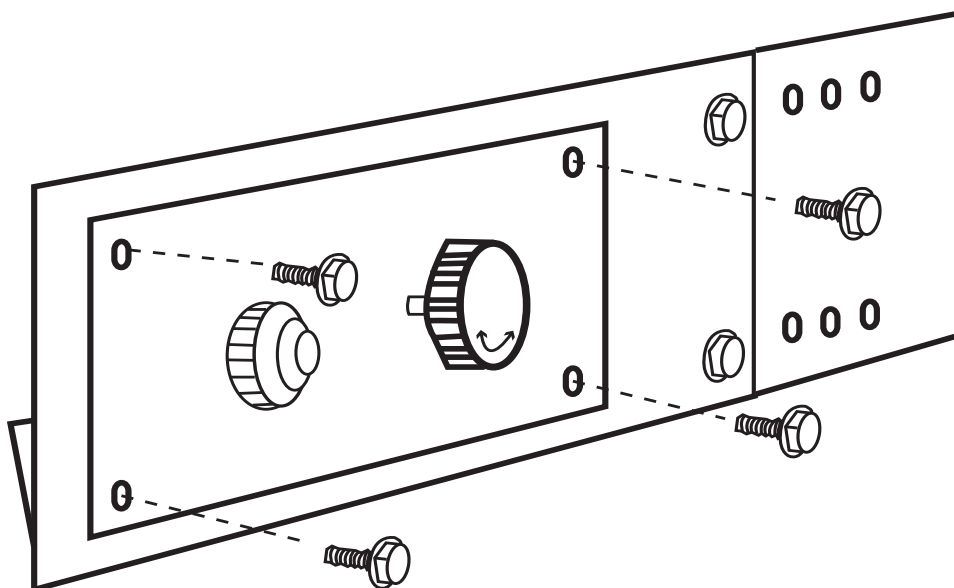

Fig. 10 Close up view securing TMSI valve bracket to control panel.
STEP 8: Secure the TMSI valve bracket into place using the (4) stainless thread cutting screws. See Fig. 10.